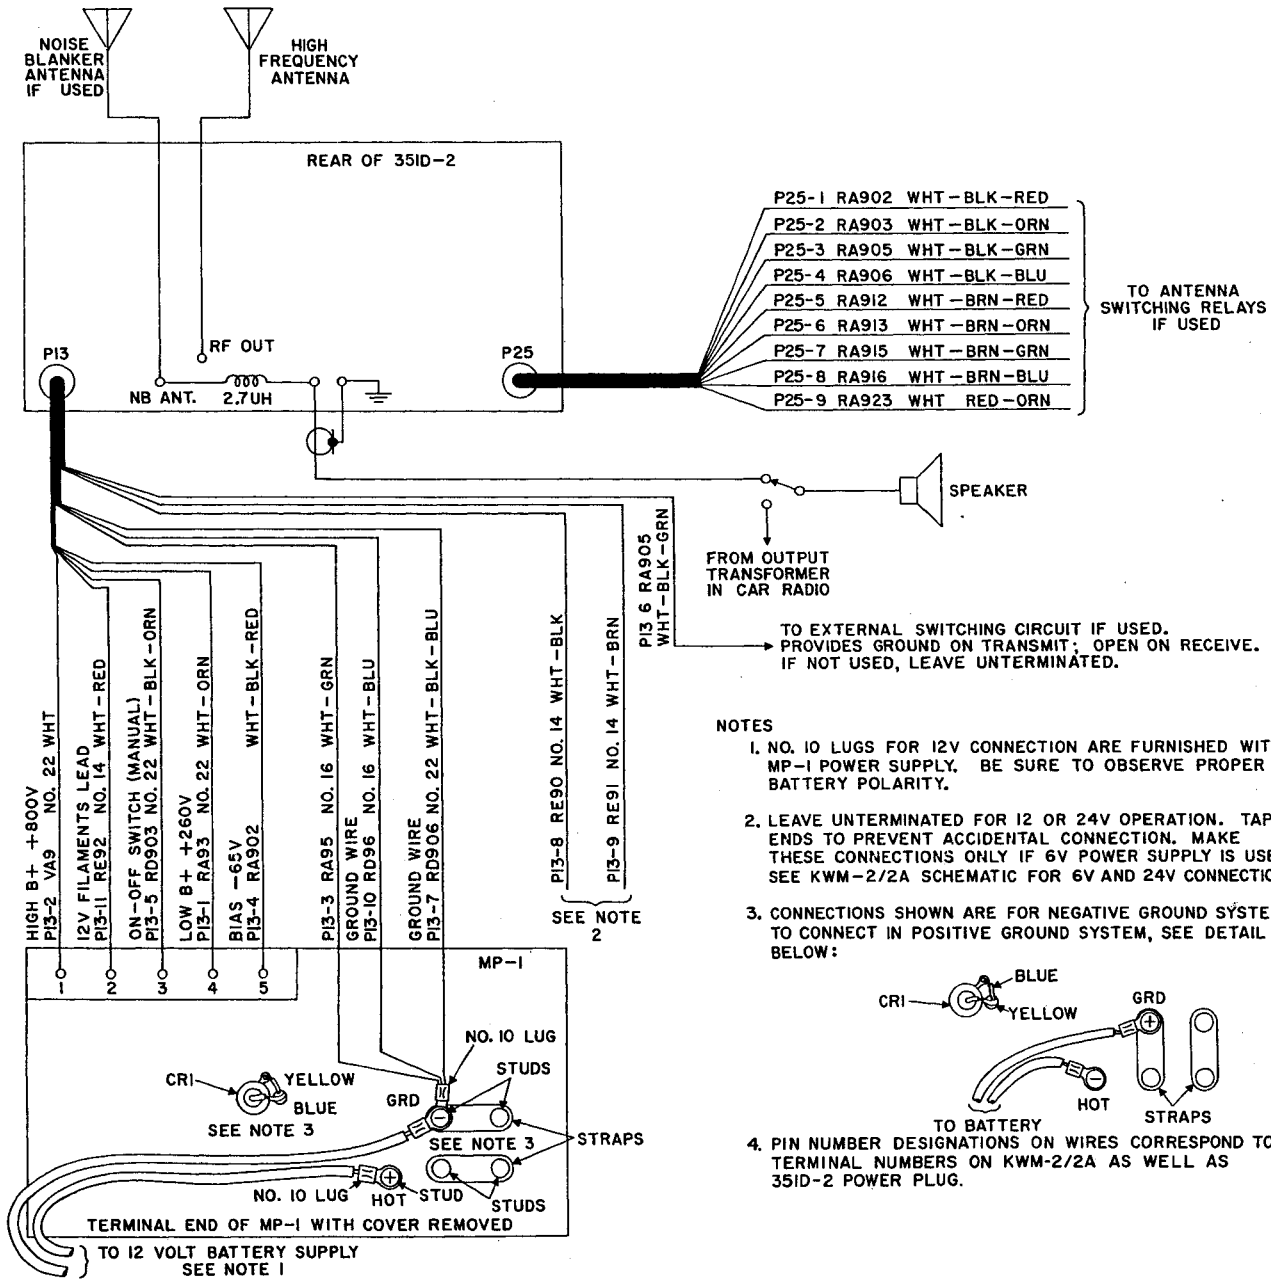

Figure 1. MP-1, KWM-2/2A, and 351D-2 Mobile Interconnections Diagram
b. Determine the necessary length of power cable to connect the MP-1 to the equipment which it is to operate. If the power supply is to provide voltages for the KWM-2/2A and the 351D-2, cut the required length of cable from the cable furnished with the mount. Attach the necessary solder lugs to the loose end of the cable for connection to the terminal board of the MP-1 Power Supply. Five no. 6 lugs are supplied with the power supply. Refer to table 1. Figure 1 shows power supply interconnections to the KWM-2/2A and 351D-2 combination.
c. Remove the cover from the MP-1 Power Supply, and make connections to the terminal board. Refer to figure 1. Two lengths of no. 10 wire are furnished with the 351D-2 for connection between power supply and battery. Cut these wires to required length, and fit with no. 10 lugs (furnished). If the 351D-2 is not used, procure the necessary wire and connect the car power supply to the studs on the MP-1. If necessary, the cable may be secured by one of the mounting screws and the cable clamp furnished.
The MP-1 is connected for negative ground when shipped. Observe proper polarity or the MP-1 will not operate. See figure 1 for stud-strapping details. Be sure to reverse the yellow and blue wire connections to the stud-mounted diode, CR1, as shown in figure 1, if positive ground is to be used.